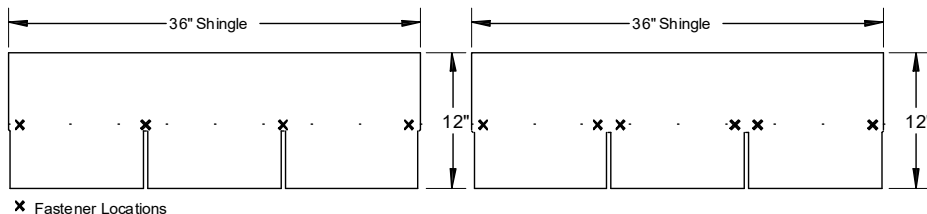

Figure 42. Shingle fastener locations for Wind Zone I (left) and Wind Zones II and III (right).
2. **Install shingles.** If shingles have been left off at the ridge line for site installation, install them now using 1" x 1" x 16 ga galvanized staples or 12ga 1-1/4" long, 3/8" diameter head roof nails. For Wind Zone I, fasten at 5/8 inch above each tab cutout slot and one at each end of the shingle one inch in from the edge (four fasteners for a three-tab shingle) (**Figure 42**). For Wind Zones II and III, use two fasteners 5/8 inch above and on either side of the tab slots and one at each end of the shingle one inch in from the edge (six fasteners for a three-tab shingle). Do not fasten through the shingle tar line.